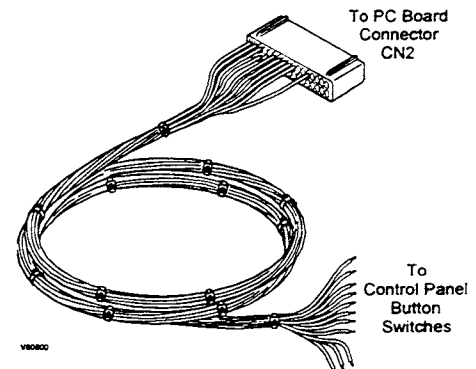

Figure 6: Auxiliary Cable Harness
22. Connect the Player 1 and the Player 2 KICK buttons to the auxiliary cable harness as shown in Figure 6. Make the connections according to the chart in Page 10.